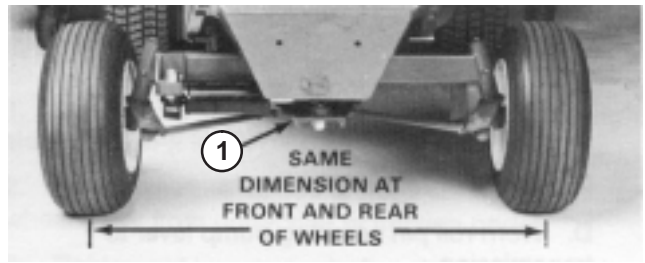

Figure 44
2. Loosen the jam nuts on both tie rods. Adjust both tie rods until center-to-center distance at front and back of rear wheels is the same (Fig. 44).